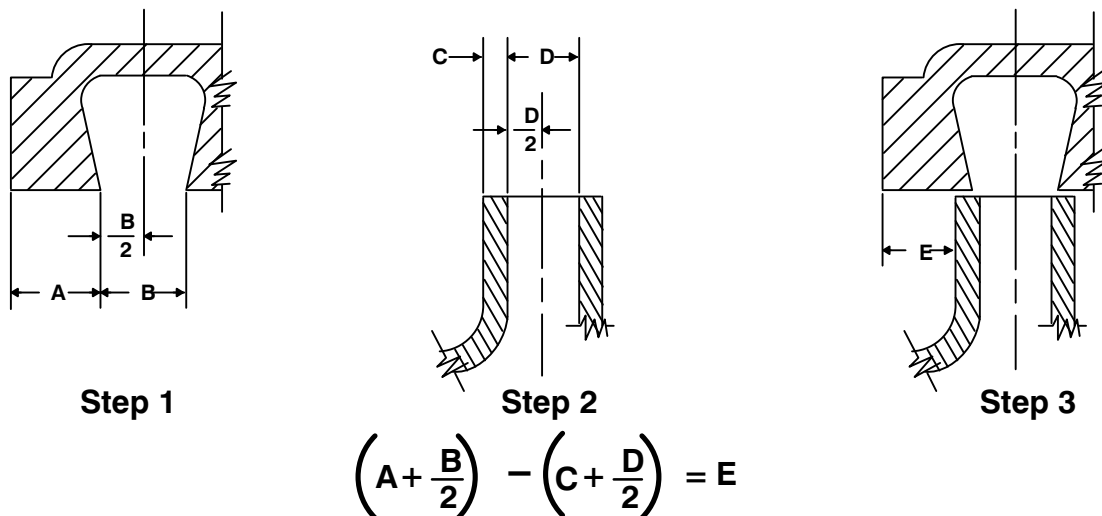

Figure 4. Centering Impeller Within Pump Casing
For maximum pump efficiency, the impeller should be centered within the pump casing. To verify impeller positioning, measure the pump casing and impeller as shown in Figure 4. Use these measurements to calculate the required impeller location (dimension E). Add or remove gaskets in the pump casing gasket set (44) to obtain dimension E.